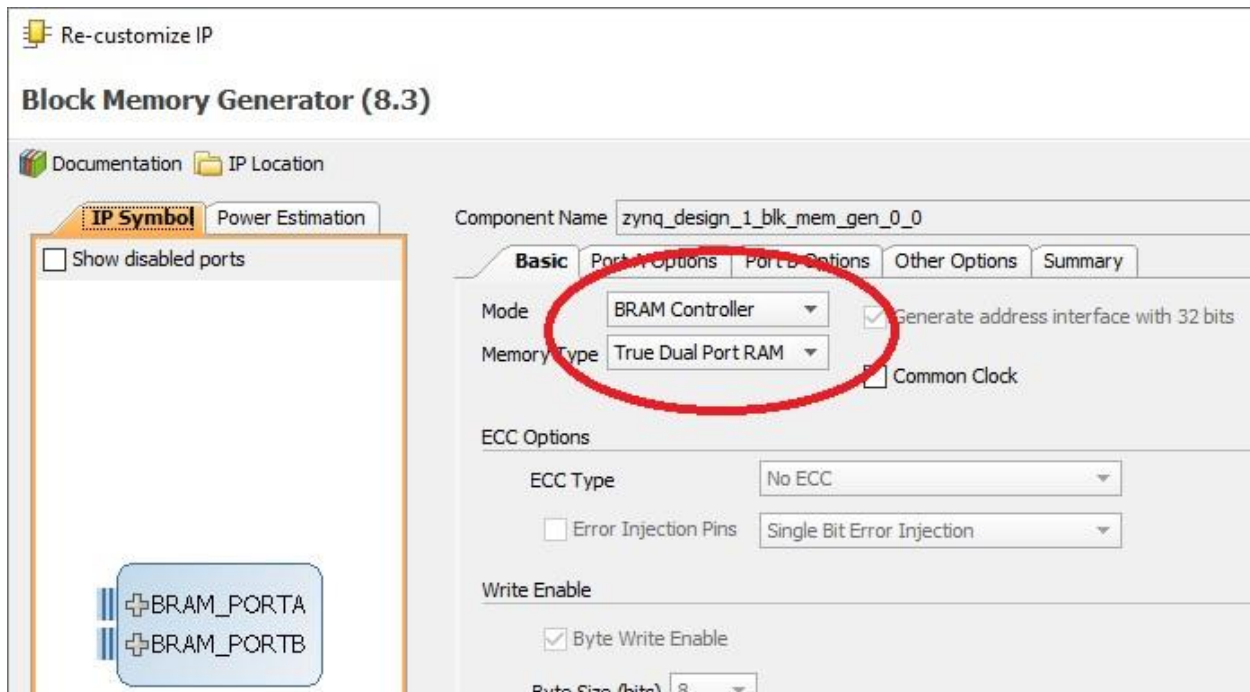

Figure 11: Customize Block option.
2. In the Basic tab of the dialog box (Figure 11), set: